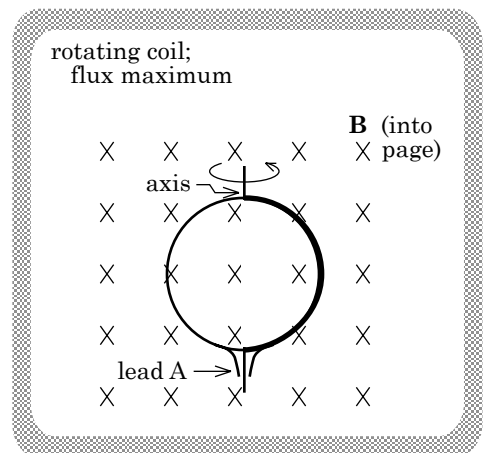

FIGURE 17.16
a.) Assume the external magnetic field is directed into the page and the coil is initially facing the **B**-field (see Figure 17.16--note that